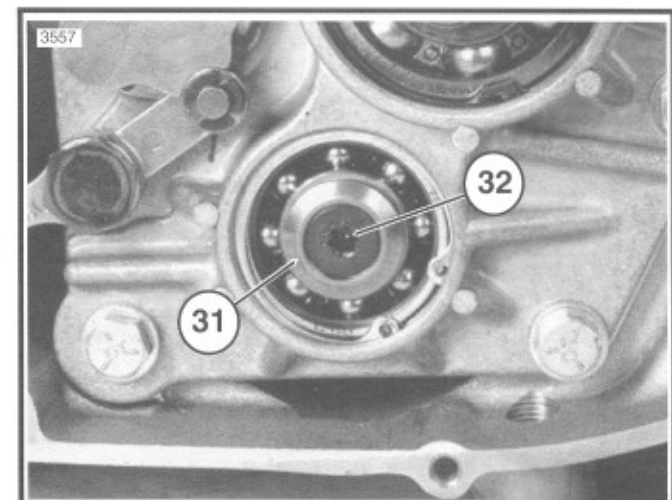

Figure 6-42.
20. See Figure 6-42. At outside of access door, position retention collar (31) next to end of countershaft with beveled side facing outward. Apply a few drops of Loctite 242 blue to the threads of screw (32). Insert screw (32) through retention collar, and thread into end of shaft. Place transmission in gear, and tighten TORX screw to 13-17 ft-lbs (18-23 Nm) torque.